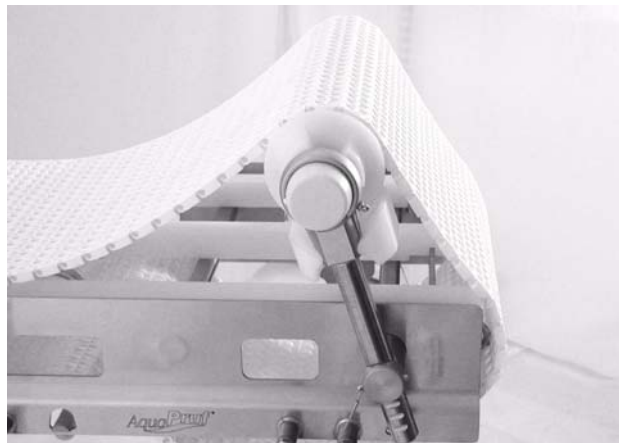

Figure 46
2. Tip up idler tail assembly (**Figure 46**).